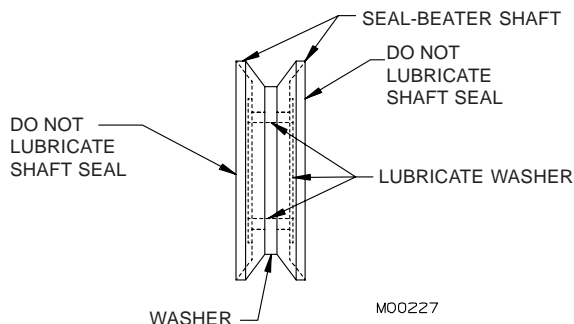

Figure 8-1 Lubricate shaft seal
1. Assemble the seals on the washer to complete the beater shaft seal. Apply a moderate amount of approved sanitary lubricant (such as Petrol-Gel or equivalent) to the internal surface and the face of the plastic washer opposite the bell portion of the seal. Do not allow any lubricant to come in contact with the bell-shaped rubber portion of the seals (figure 8-1).